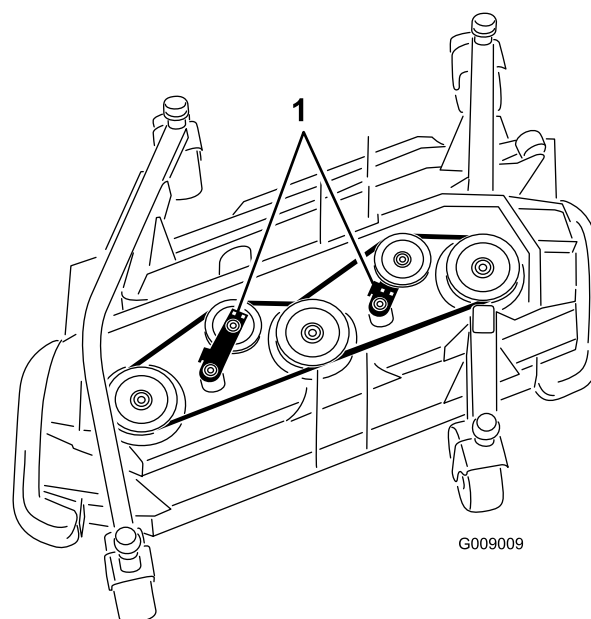

Figure 85
3. Using a ratchet wrench or similar tool, move the idler pulleys (Figure 85) away from the drive belt to release the belt tension and allow the belt to be slipped off the pulleys.